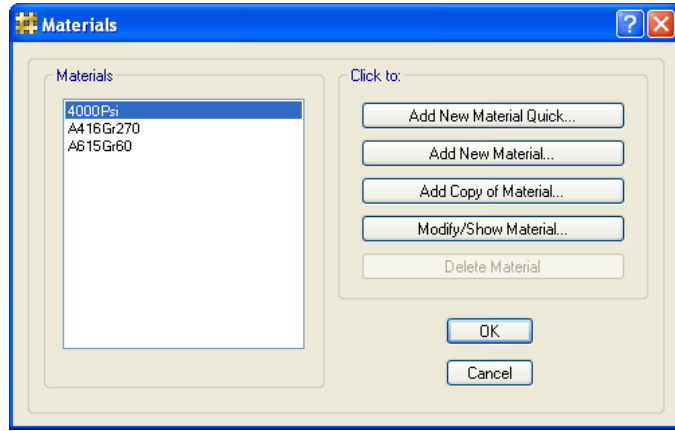

Figure 8 Materials form
- A. Click the **Define menu > Materials** command to access the Materials form shown in Figure 8.